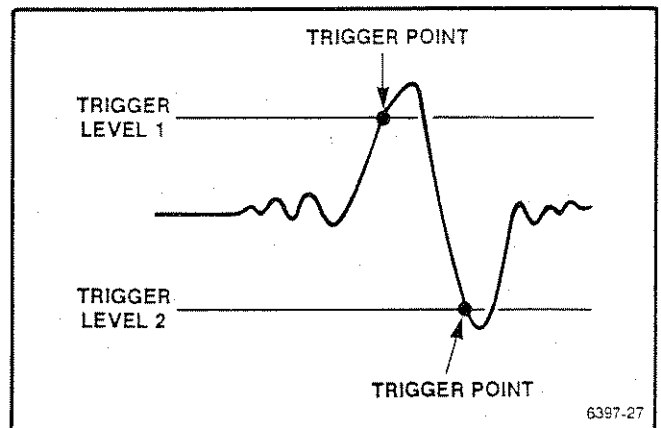

Fig. 3-14. BI slope trigger (Level 1 > Level 2).
-HYS. + and - are those normally found on oscilloscopes, but BI, +HYS, and -HYS are types of triggers more suited for single-shot transient signals (BI) or for signals with high noise levels ( $\pm$  HYS). The RTD 710A has two trigger levels: TRIG LEVEL 1 and 2 when BI, +HYS, or -HYS is selected. TRIG LEVEL 1 sets the triggering level for the positive-going portion of the waveform when using BI, +HYS, and -HYS SLOPE. TRIG LEVEL 2 sets the triggering level or the trigger resetting level for the negative-going portion of the waveform in the BI, +HYS, and -HYS SLOPE. When the trigger levels are set, a waveform window is formed between the two levels. Whichever level is the most positive starts the window, while the less positive level ends the window. This is shown in more detail in later figures.
**BI Slope.** The BI slope trigger is useful when digitizing a single-shot input signal of unknown nature. When selected, a trigger window is formed between TRIG LEVEL 1 and 2 (Figs. 3-14 and 3-15). A triggering pulse is generated when the signal enters the window, or when leaving the window, depending upon whether level 1 is less than or greater than level 2.